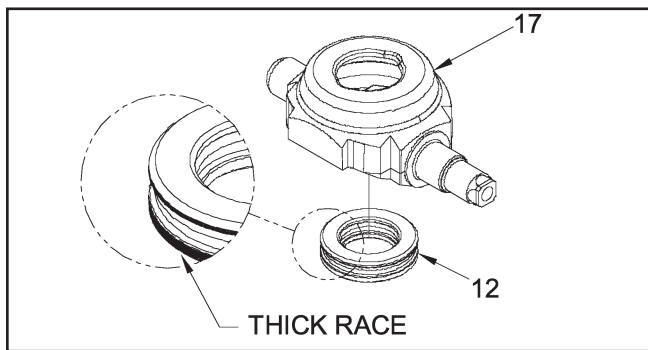

Figure 14
12. **(See Figure 14)** Remove the thrust bearing assembly (12) from the swashplate (17).
14. **(See Figure 14)** Install the pump thrust bearing (12) in the trunnion machined swashplate (17). NOTE: Place the thin race of the bearing towards the swashplate. The thick race must face the pistons.